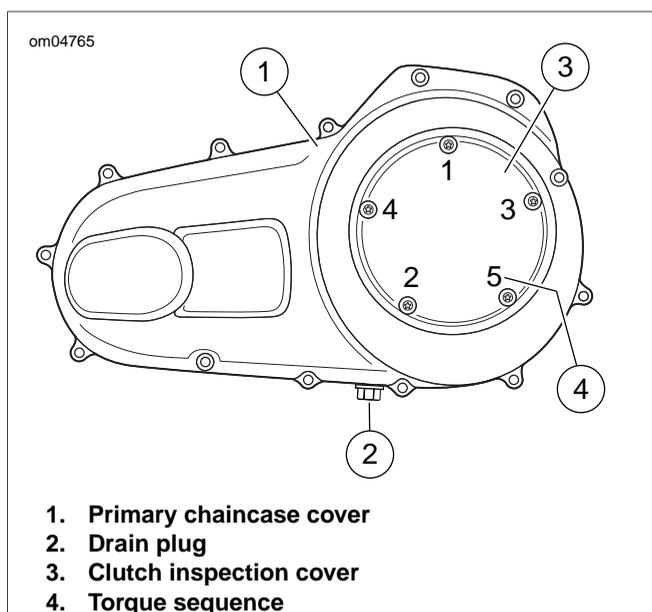

Figure 1-12. Primary Chaincase
3. See Figure 1-12. Remove five screws to free clutch inspection cover from primary chaincase cover.
9. Install five screws to fasten clutch inspection cover to primary chaincase cover. Alternately tighten screws to 84-108 in-lbs (9.5-12.2 Nm) in the sequence shown in Figure 1-12.
11. Install five screws to fasten clutch inspection cover to primary chaincase cover. Alternately tighten screws to 84-108 **in-lbs** (9.5-12.2 Nm) in the sequence shown in Figure 1-12.